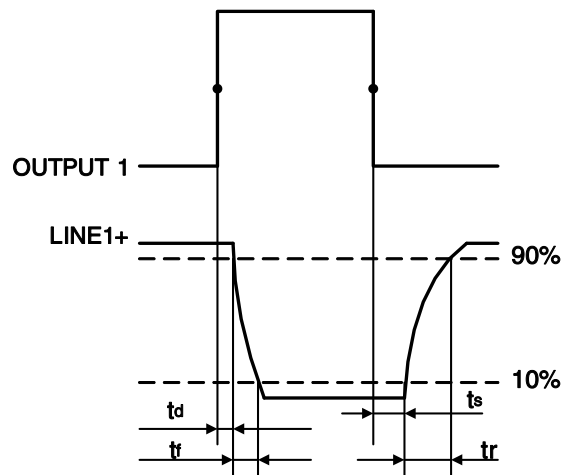

Figure 7-6 Parameter of opto-isolated output circuit
- Rising time delay = tr+td: <50μs (0°C~45°C) (parameter description is shown in Figure 7-6)
- Falling time delay = ts+tf: <50μs (0°C~45°C) (parameter description is shown in Figure 7-6)